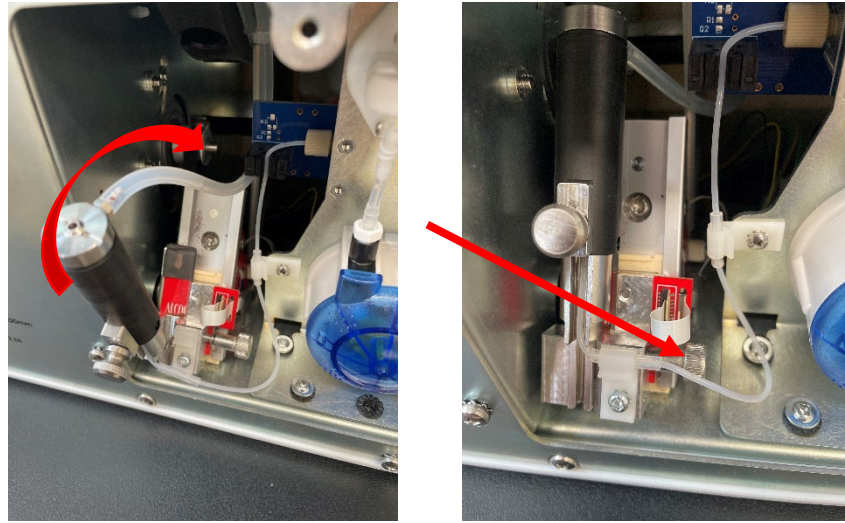

Figure 15
12. Pivot Needle assembly forward, then secure with thumb screw. See Figure 15.